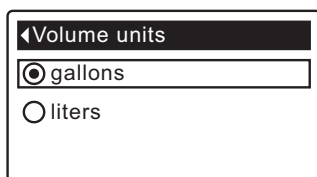

FIG. 55
5. Press the SELECT (O) button to display the Volume units menu (See Figure 55).
6. If the desired volume unit already has a black dot next to it (See Figure 55), go to Step 7. Otherwise, press the DOWN (▼) or UP (▲) buttons to scroll to the other volume unit, then press SELECT (O) to choose it.
7. Press the SELECT (O) button. The display will go back to the User preferences menu.